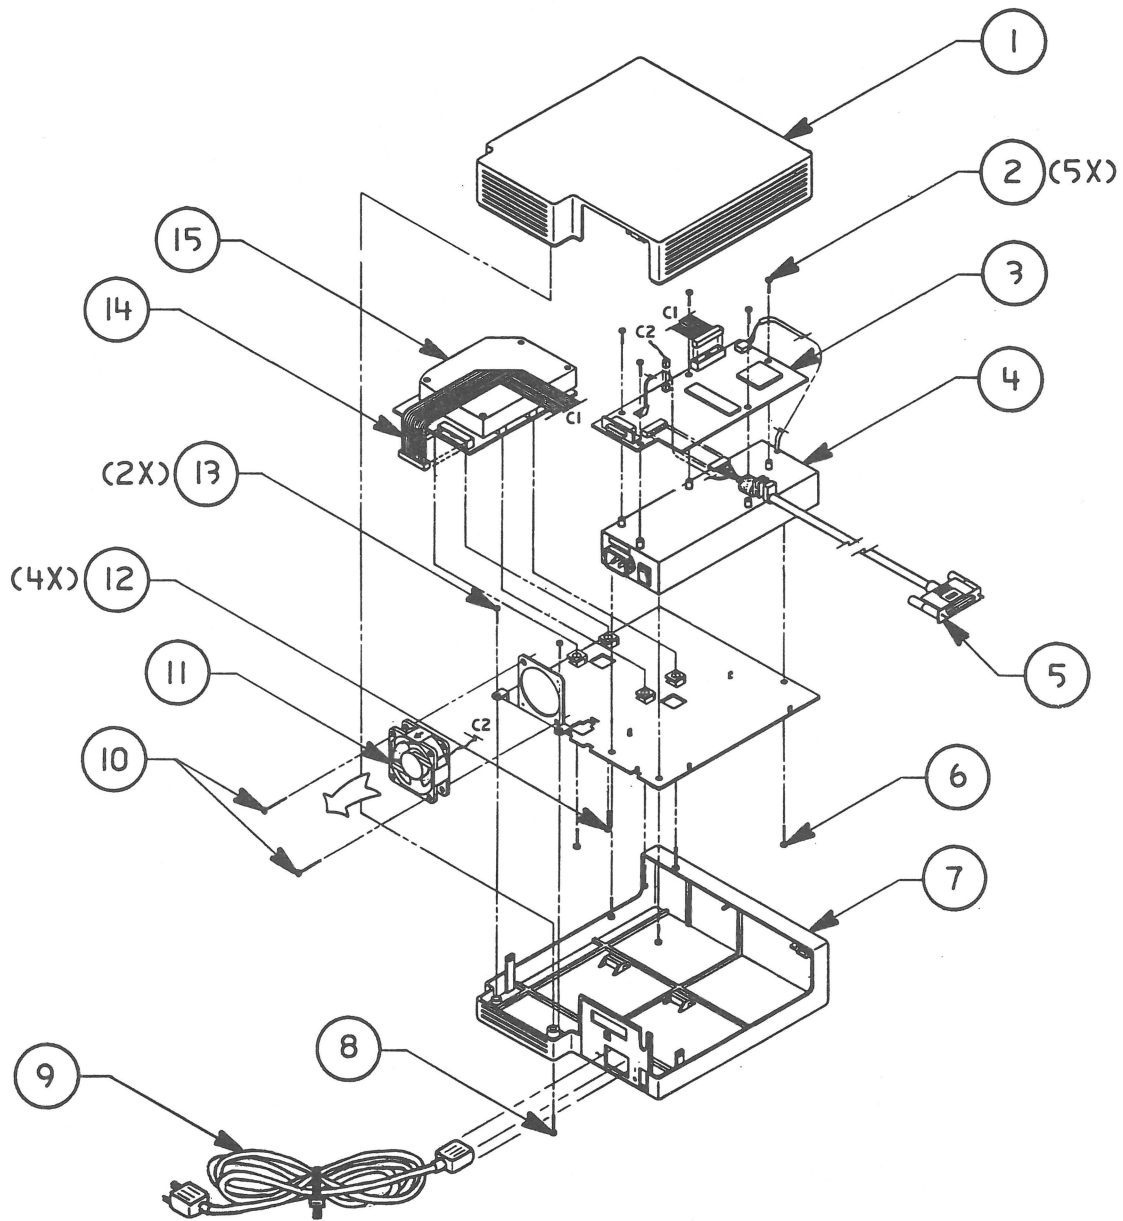

FIGURE 1
IPL.3 Hard Disk 20 Assembly (Figure 1)
□ HARD DISK 20 ASSEMBLY (Figure 1)